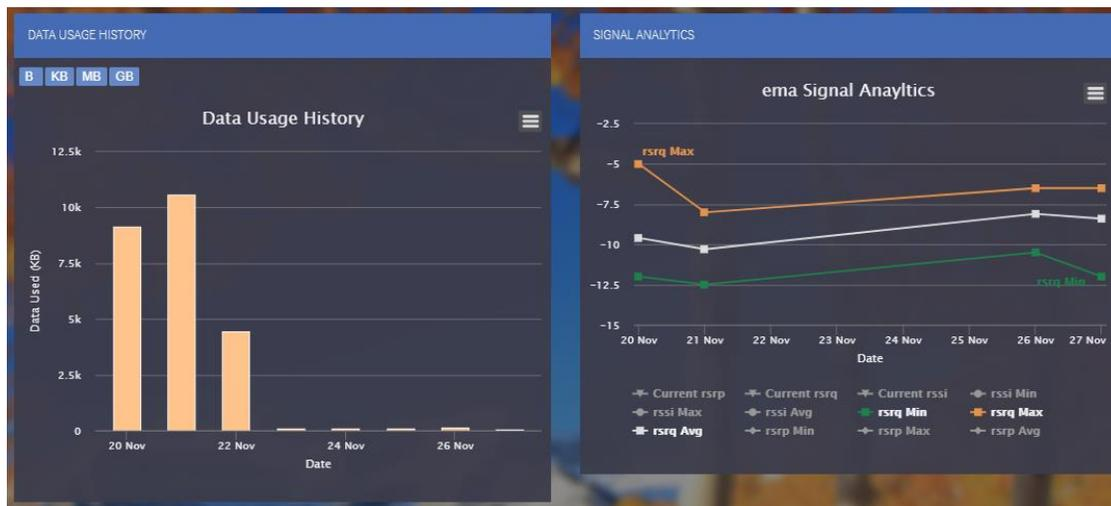

Figure 13
- The "DATA USAGE HISTORY" and "SIGNAL ANALYTICS" sections can be used to monitor ema's usage and signal data. Reference *Figure 13*.